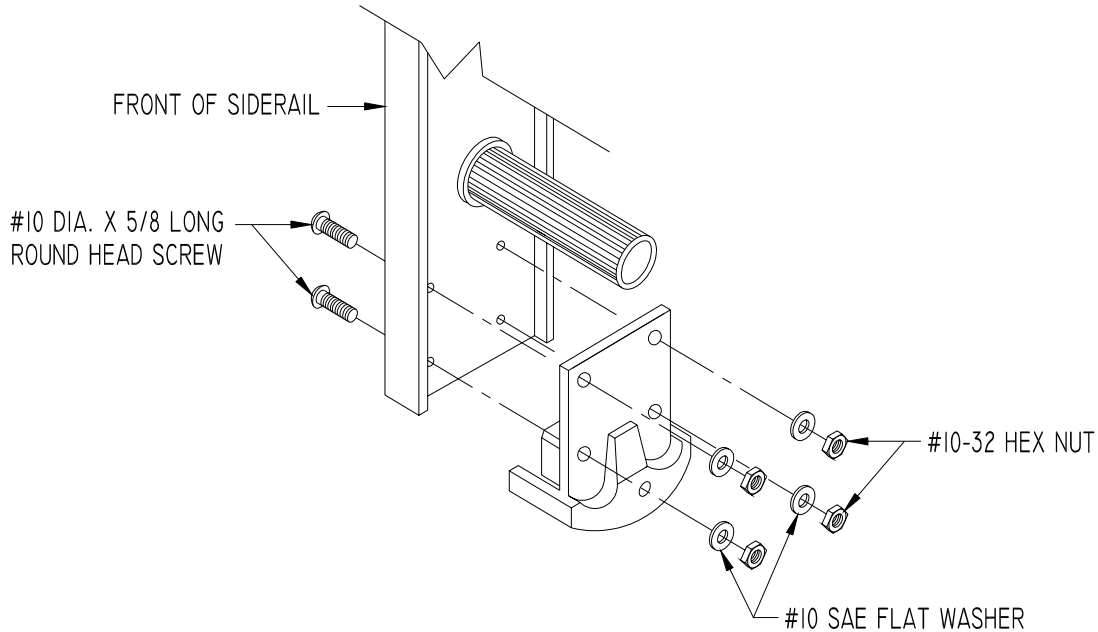

Figure 3
1. Position new mounting bracket on inside of the side rail as shown in Figure 3. Attach to side rail using four each #10-32 x 5/8" round head machine screws, #10 sae flat washers, and #10-32 nylock hex nuts. Tighten securely using 3/8" wrench and screw driver. All lock nuts should be on inside face of track rail.